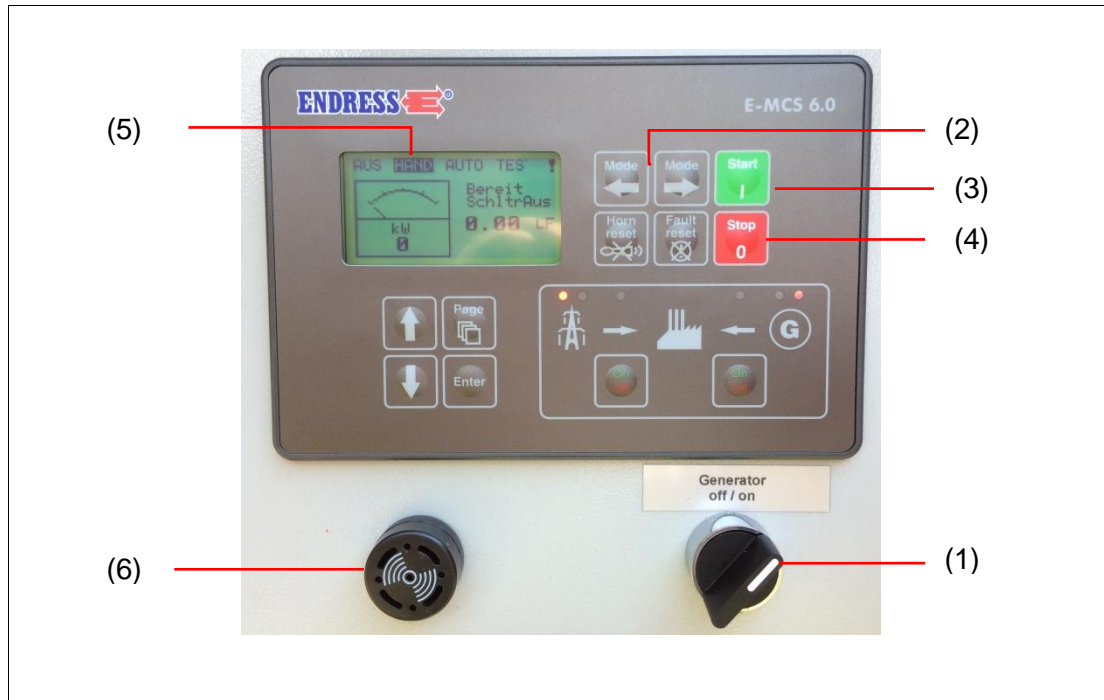

Fig. 8-2: Switching the generator off
- switched off device (Fig. 8-2: Switching the generator off)
2. Press the STOP button (Fig. 8-2: Switching the generator off; the red LED begins to flash. The engine stops after the cooling run-on period.
3. Press the STOP button (Fig. 8-2: Switching the generator off) a second time; the engine stops immediately without a cooling run-on period (not recommended).
4. Selection switch (Figure 8-2: (1)) into the Off position.